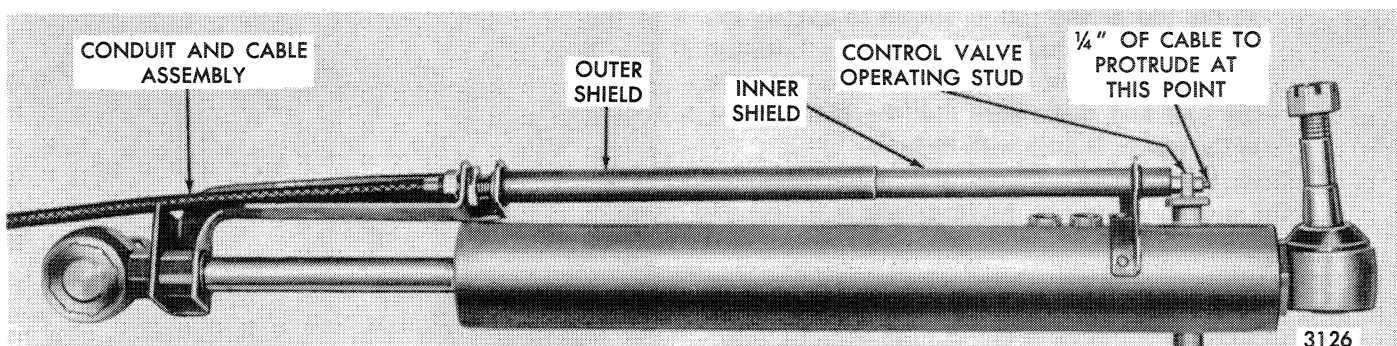

Figure 23—Adjustment of Control Cable
3. Disconnect the control cable from the control valve operating stud, Figure 23.
conduit assembly to the cable and shield on the power cylinder, Figure 23, and remove it from the shield.
3. Attach the end of the cable to the control valve operating stud. Adjust the two nuts on the end of the cable so that $\frac{1}{4}$ " of cable protrudes from the nut on the outside of the operating stud, Figure 23.
2. Position the $\frac{7}{8}$ "-14 nut and lock washer in the outer shield and bracket assembly into the outer and inner shield and bracket assemblies until the actuating cable rod passes through the power steering cylinder control valve operating stud, Figure 23. Secure the actuator cable and conduit assembly to the outer shield and bracket assembly with the $\frac{7}{8}$ "-14 nut and lock washers.